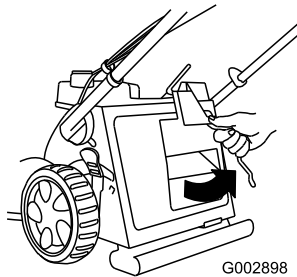

Figure 29
1. Rotate the latch rod to the right and remove the mulch plug (Figure 29).